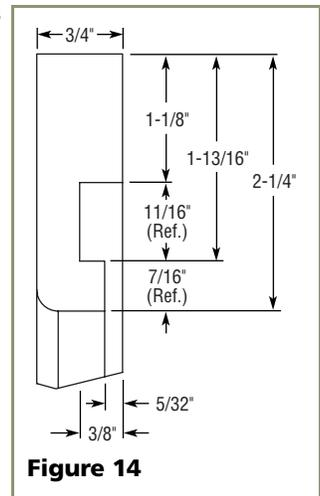

Figure 14
2. Typical routing dimensions are shown in **Figure 14**.